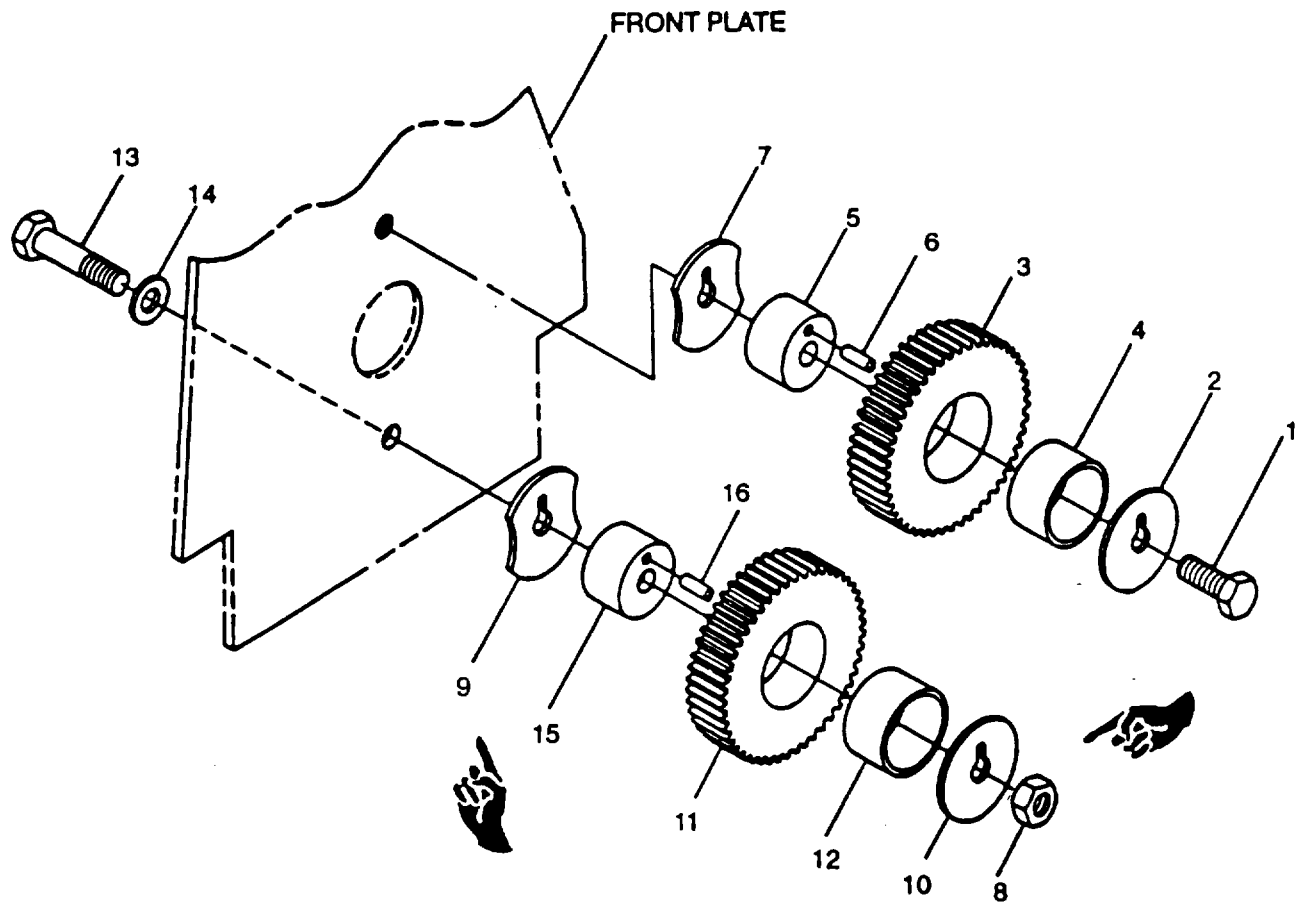
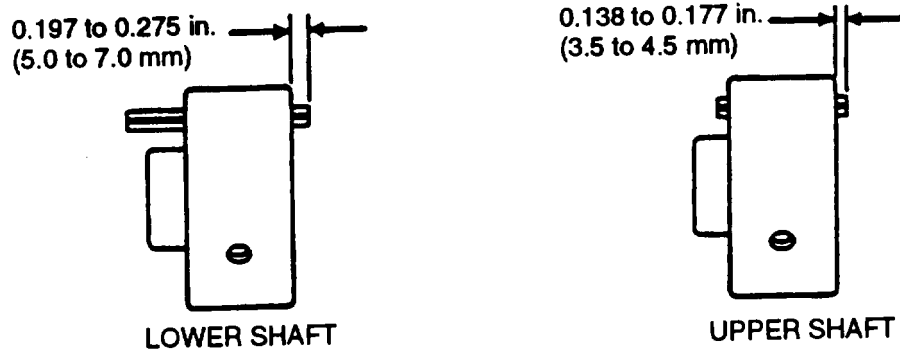

FIGURE 3-134. Idler Gears
FIGURE 3-135. Spring Pin Protrusion
- (3) Install upper idler gear (3, FIGURE 3-134) on its shaft without turning camshaft gear (5) or injection pump gear.
- (4) Install washer (2) so hole and spring pin align. Install capscrew (1). Tighten capscrew (1) to 65 ft-lbs (90 Nm).
- f. Remove bolt (1, FIGURE 3-134) and thrust washer (2) securing upper idler gear (3) to shaft (5); remove idler gear (3).
- g. Remove nut (8) and thrust washer (10) securing lower idler gear (11); remove idler gear (11).
- i. Remove bolt (13) and washer (14) from lower idler gear shaft (15).
- j. Remove lower idler gear shaft (15) from front plate by using a pry bar. Remove thrust washer (9). A
- k. Remove upper idler gear shaft (5) from front plate by using a pry bar. Remove thrust washer (7).
- a. Install spring pins (6 and 16, FIGURE 3-134) with end of pin protruding as shown in FIGURE 3-135.
- b. Install upper thrust washer (7, FIGURE 3-134) and idler gear shaft (5) with spring pin (6) in notch. Drive shaft into front plate until thrust washer (7) is fully seated with oil hole facing up. Tighten capscrew in engine block to 70 ft-lbs (95 Nm).
- c. Install lower thrust washer (9) and idler gear shaft (15) with spring pin (16) in notch. Drive shaft into front plate until thrust washer (9) is fully seated with oil hole facing up. Install capscrew (13) and washer (14) through rear of front plate and tighten capscrew to 70 ft-lbs (90 Nm).
Upper and lower idler gear sleeve bearings (4 and 12, FIGURE 3-134) have the same ID, but are different. Sleeve bearing with spiral oil groove goes in lower idler gear. Sleeve bearing without groove goes in upper idler gear (pressure lubed). Do not intermix sleeve bearings or premature sleeve bearing failure will result.